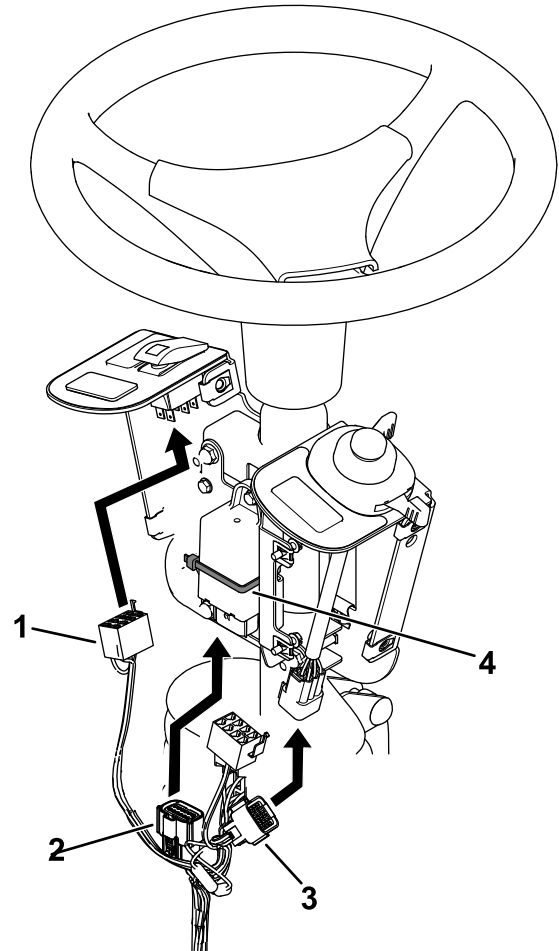

**Figure 6**
4. Install the flasher to the fuse-mount plate using a screw (#10 x 3/8 inch) as shown in Figure 6.